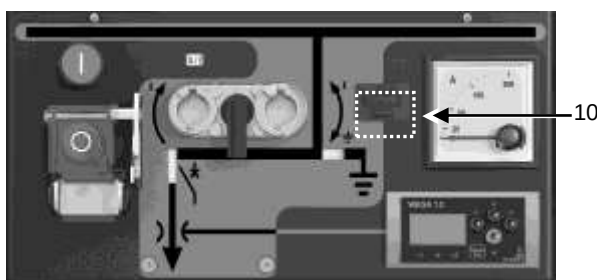

Figure 4-19: Trip indicator
The trip indicator (10), see Figure 4-19, indicates whether the switch has been switched off by the protection relay. Resetting can be done by hand via the reset button on the front.